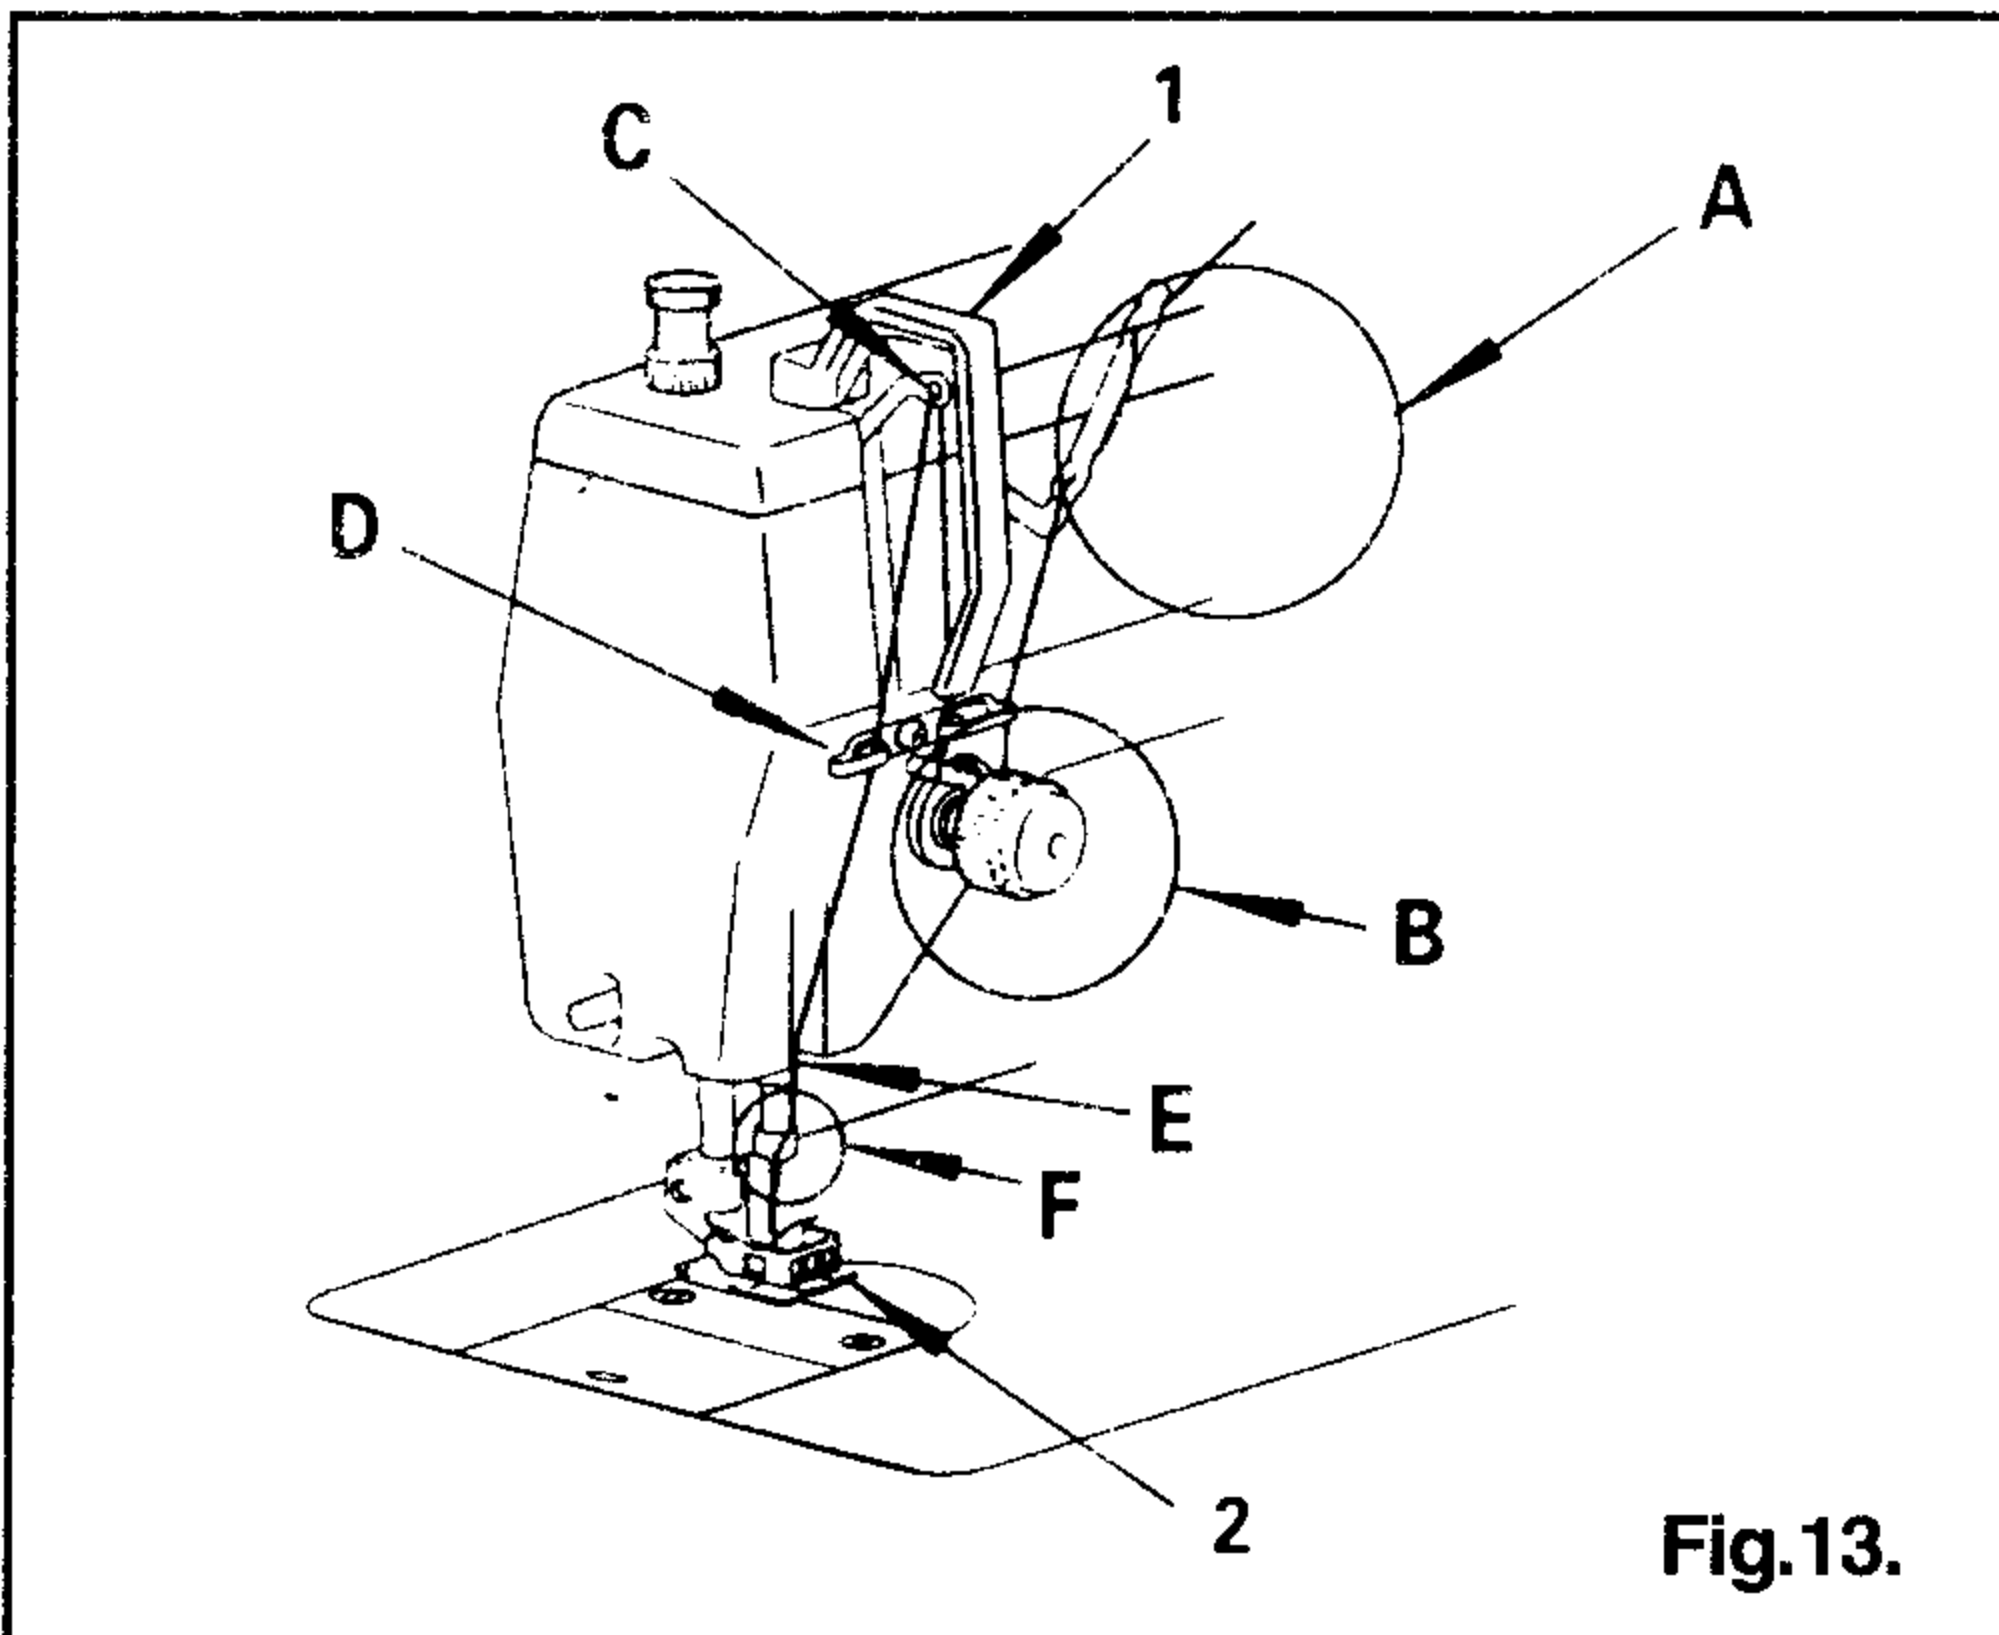
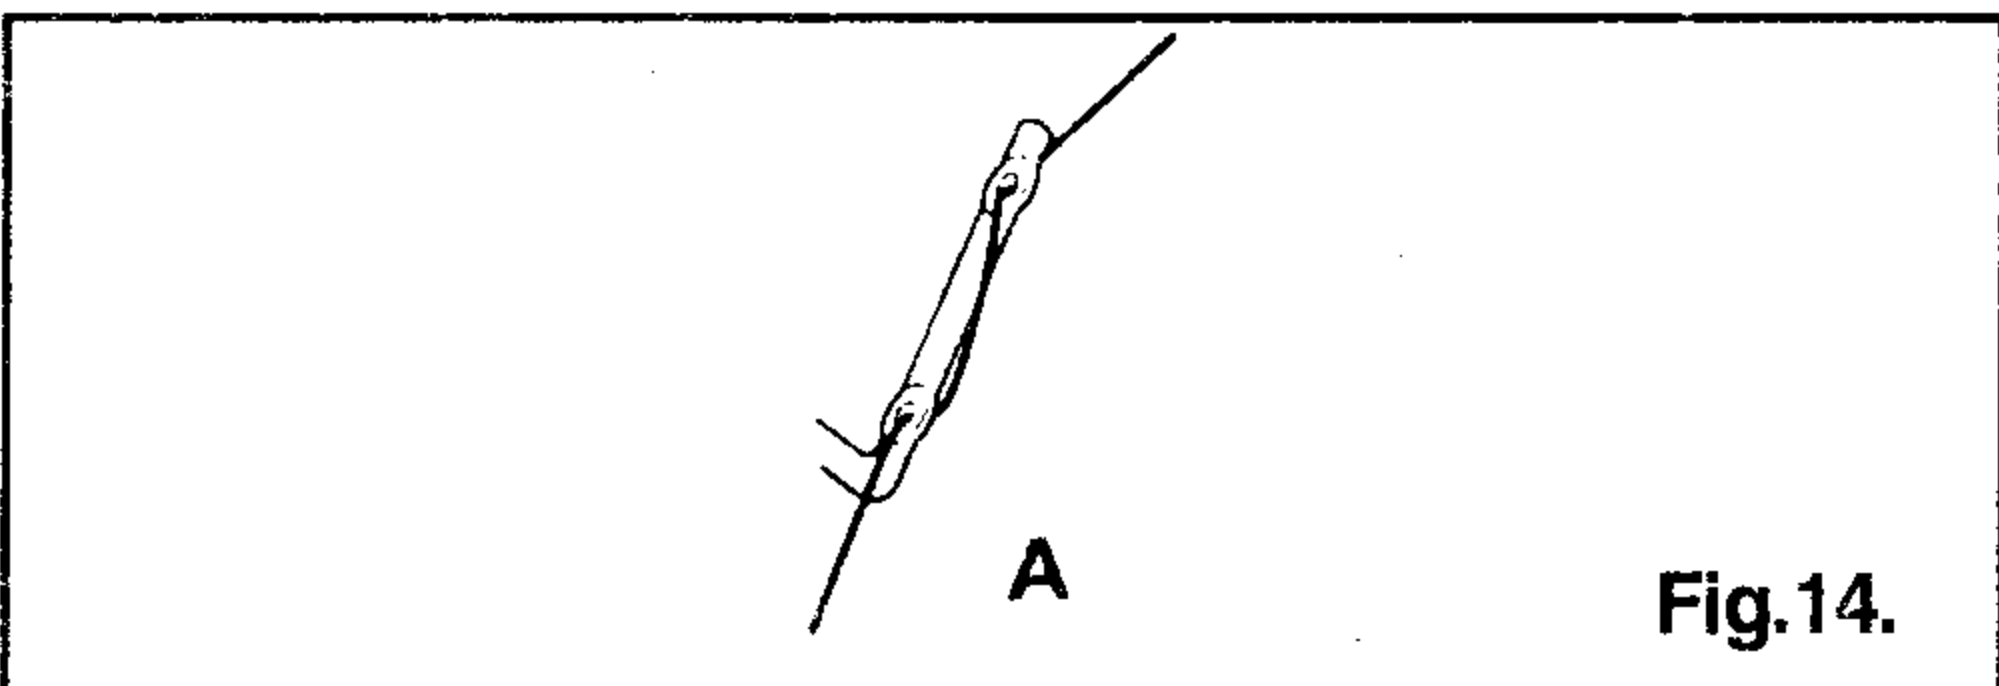
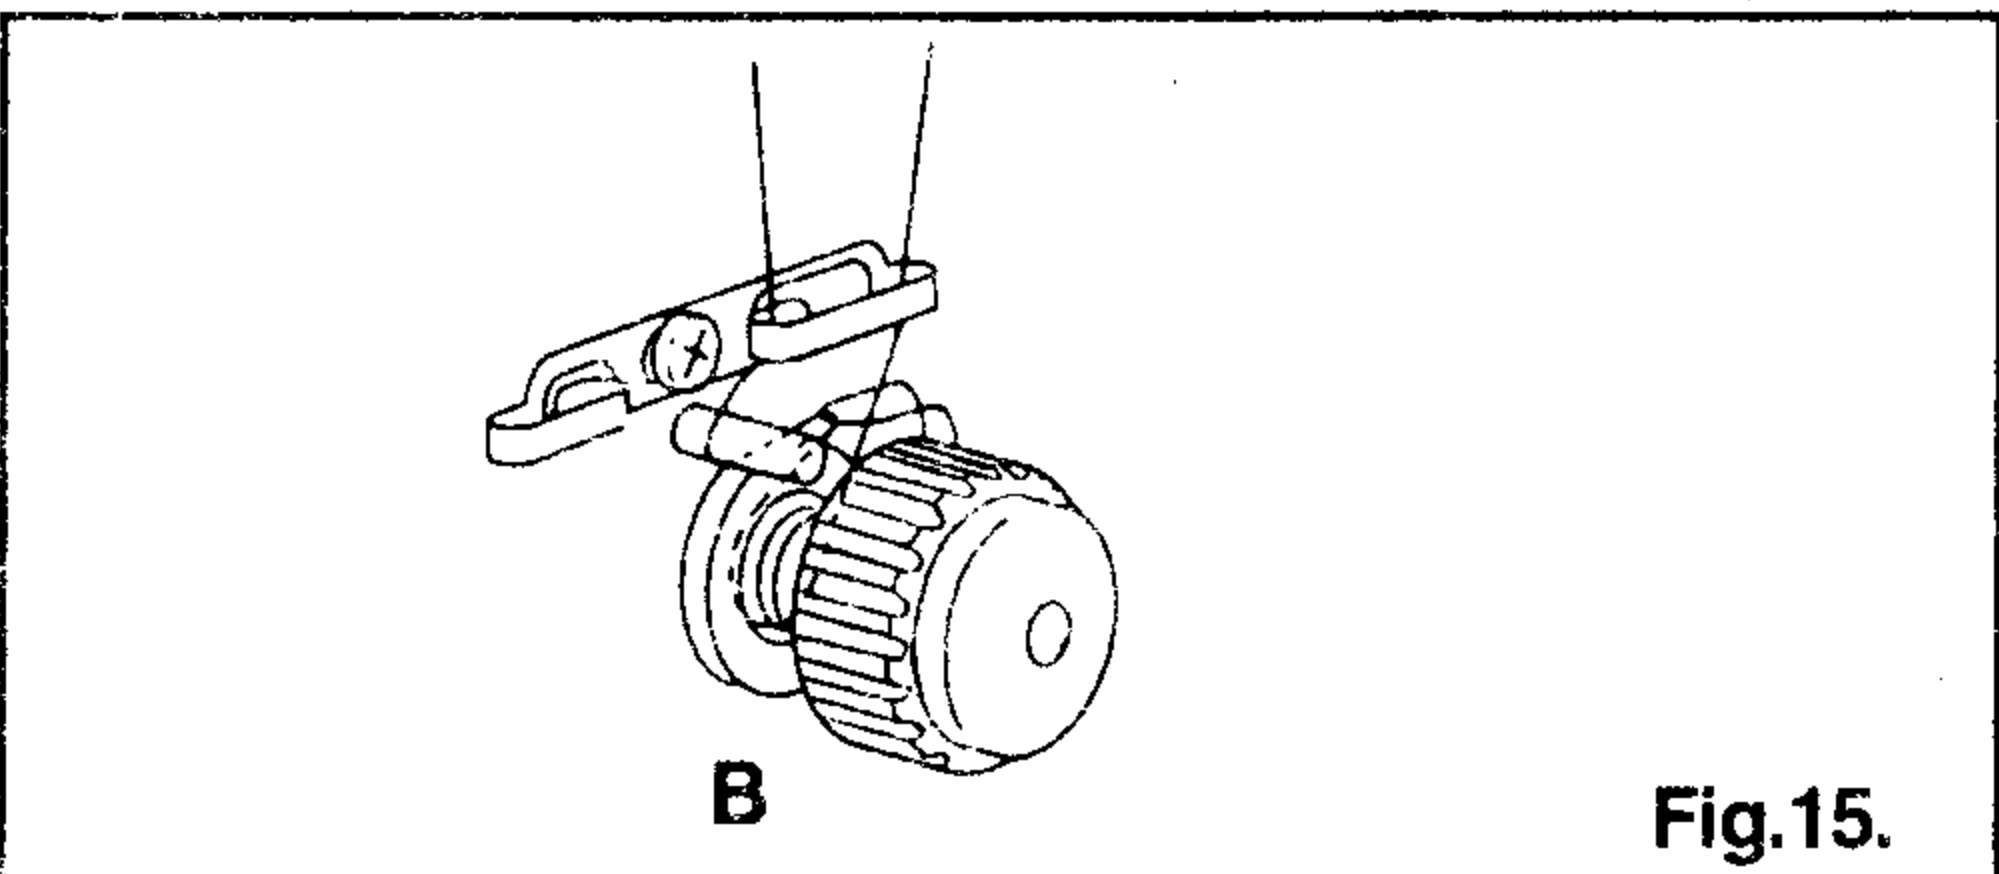

Fig.13.
Fig.14.
Fig.15.
1. Lead thread from the thread unwinder through all the threading points A (Fig.14), B (Fig.15), C (Fig.13), D (Fig.13), E (Fig.13) and F (Fig.16) in the order shown.